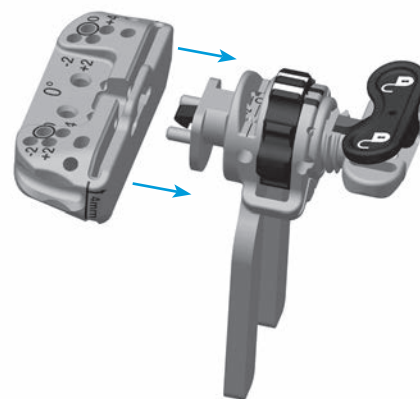
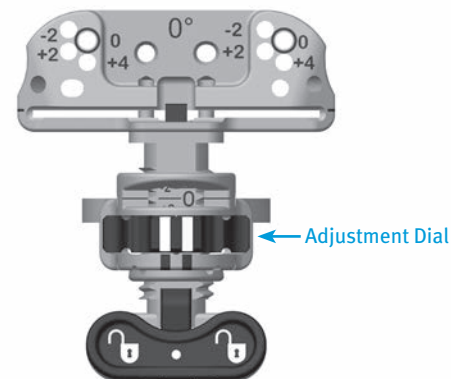

Fig. 133
Fig. 134
- Attach the 0° Captured/Uncaptured Cutting Head to the Distal Femoral Distal Femoral Resection Guide (Fig. 133). The adjustment dial on the resection guide can be set from “-2” to “+4”. The “0” represents a 10mm distal resection (Fig. 134). The -1 setting represents a 9mm resection while the +4 setting represents a 14mm resection. Upon rotation, the dial has palpable stops and clear markings at each 2mm location. One half rotation creates 1mm of adjustment. Insert the Distal Femoral Resection Guide with the cutting head into the Femoral Valgus Alignment Guide until the cutting head rests on the anterior femoral cortex. Verify the desired resection setting on the Distal Femoral Resection Guide and/or rotate the adjustment dial to attain the desired setting. (Fig. 135a). Insert trocar-tipped pins through the two standard pin holes marked “0” on the anterior surface of the cutting head (Fig. 135b). Additional 2mm adjustments may be made by removing the cutting head from the pins and replacing the cutting head on the pins in the sets of holes marked -2, +2, and +4. The markings on the cutting head indicate, in millimeters, the amount of bone resection each will yield relative to the initial distal resection setting.